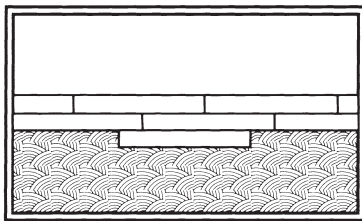

Fig. 34
- Start installing the plank along the center line (Fig. 34).